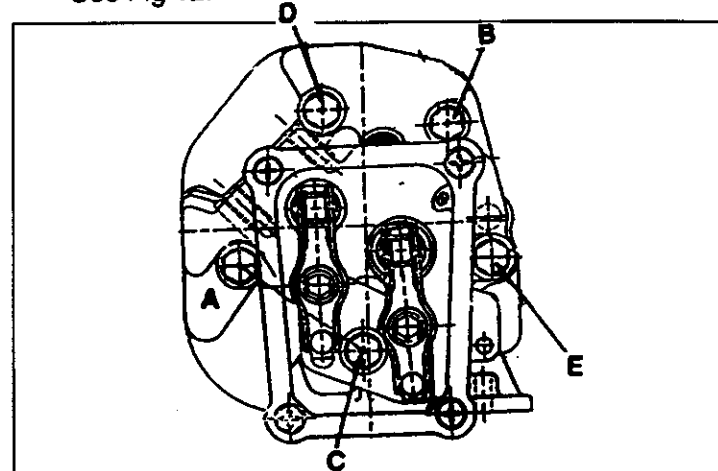

FIG. 12
- The torque sequence is A, B, C, D, E (star pattern). See Fig 12.